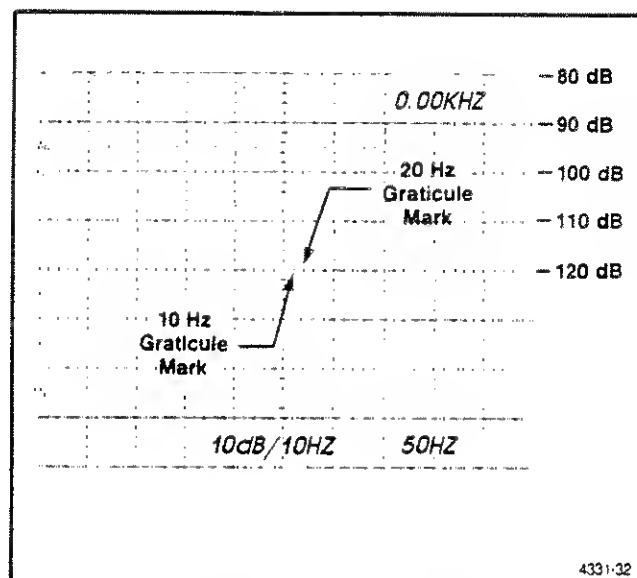

Fig. 5-4. 10 Hz null adjustment.
Adjust the 7L5 manual sweep dial to position the dot horizontally in line with the  $10 \text{ Hz}$  graticule mark (see Fig. 5-4).
b. Set the calibration fixture Mode to Notch (in) position and the Atten to 0 dB (out). Adjust the SG 5010 FREQ and the calibration fixture Adj for Null controls to position the dot vertical to the most stable point below the -80 dB level on the display. (See Fig. 5-4.)